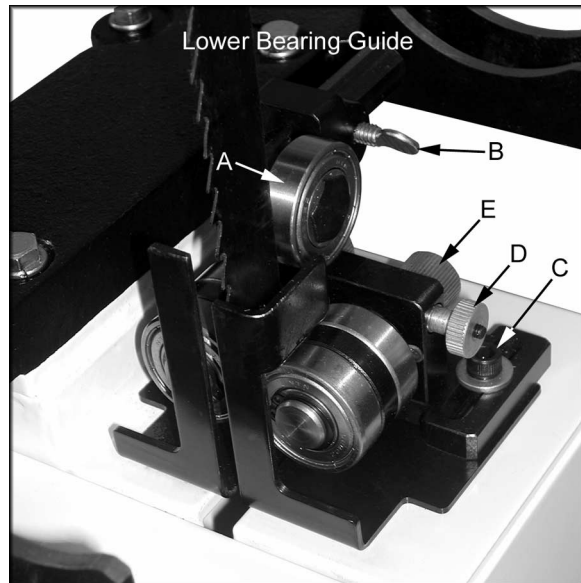

Figure 4
3. Loosen the thumb screw (B, Fig. 4) and slide the bearing and bearing post until the space between the back-up bearing (A, Fig. 4) and the back edge of the blade is approximately 1/64”. A convenient way to achieve this spacing is by placing a dollar bill folded twice (four thicknesses) between blade and bearing. Tighten thumbscrew.
4. Loosen the socket head cap screw (C, Fig. 4) and slide the bearing assembly until the bearing guides rest just behind the gullet of the blade teeth. You may need to readjust the back-up bearing. Tighten socket head cap screw.
5. Loosen the thumb screw (D, Fig. 4) and turn adjusting screw (E, Fig. 4) clockwise or counter-clockwise until the bearing is approximately 1/64” away from the side of the blade.
7. Tighten thumbscrew (D, Fig. 4). Check to make sure the adjustments have not changed during the tightening process, and that the bearing guides do not pinch the blade.